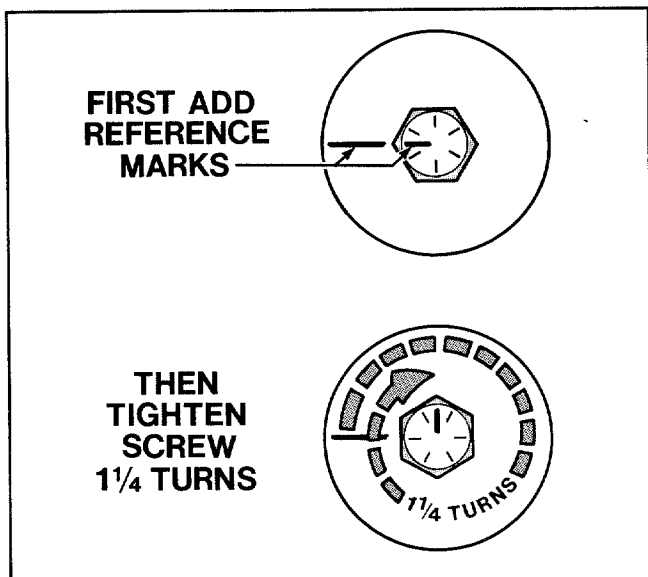

Figure 5-10: If you do not have a torque wrench, tighten mounting screw as shown above.
1. Using chalk, a grease marker, or paint, draw a thin line across one-half of the screw head as shown in Figure 5-10. Draw a similar reference line on the washer, directly opposite the line on the screw.